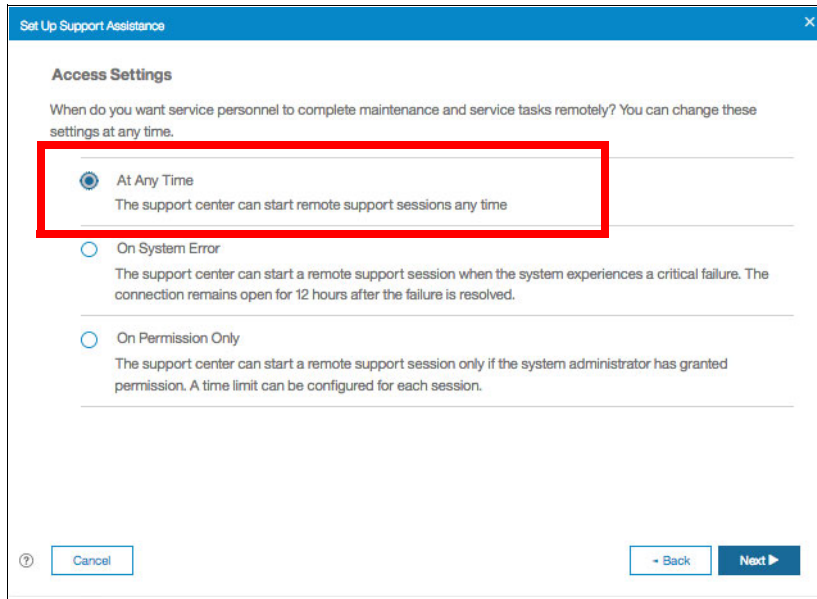

Figure 4-24 Access Settings
2. The Wizard continues in Figure 4-24 on page 101 allowing selection of how IBM will be allowed to work with this system. The most common selection is At Any Time. On System Error is another popular setting. These connections allow IBM timely access to collect logs. On Permission only requires the customer to open the connect when required.